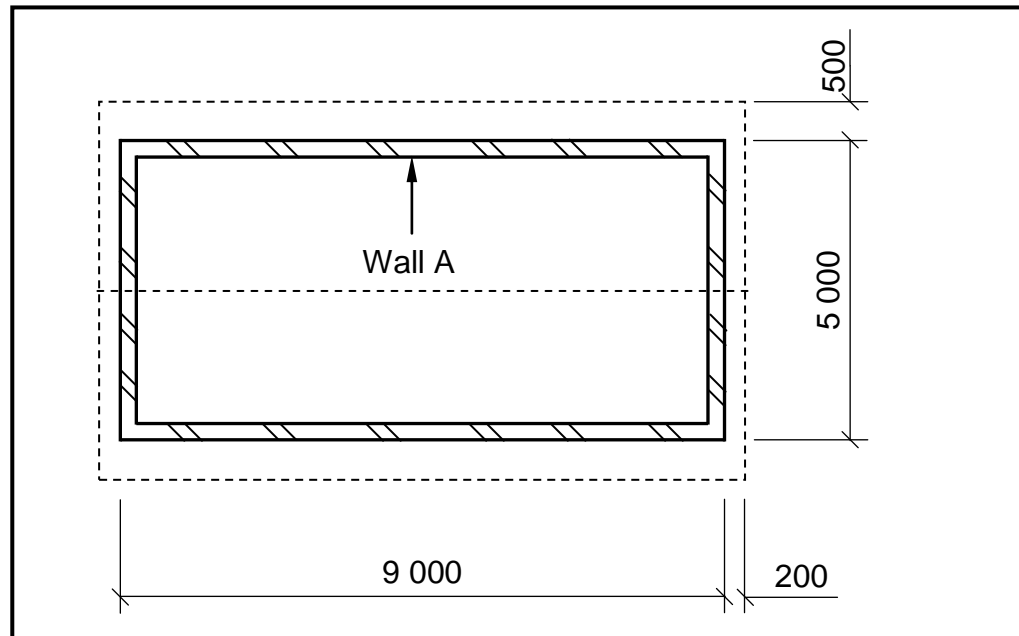

FIGURE 3.6
- 3.6 FIGURE 3.6 below shows the floor plan of a building with a gable roof with corrugated roof sheeting as roof covering. Study the figure and answer the questions. Show ALL calculations.